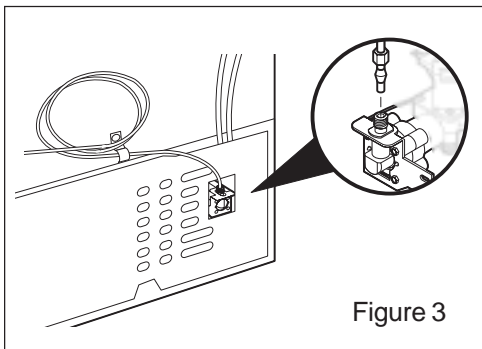

Figure 3
4. Secure copper tubing with STEEL CLAMP and screw to rear panel at location shown (Figure 3).
5. Coil water supply tubing as shown (figure 3).
6. Turn on water supply and check all connections for leaks (figure 3).